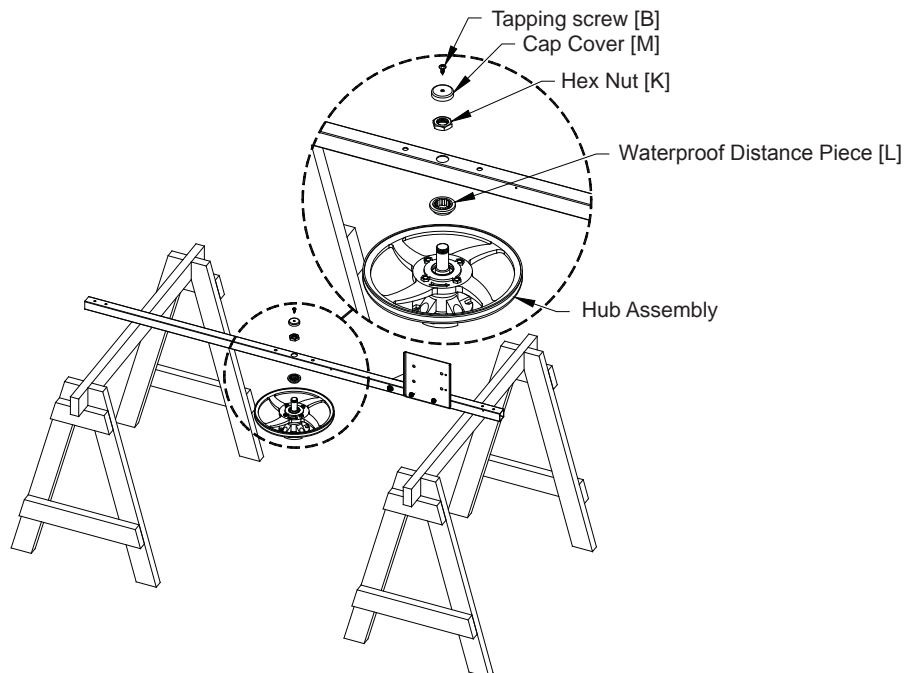

Figure 4
Rotate the Central Support on the saw horses so the Motor Slide is pointing up. Then slide the Waterproof Distance Piece [M] over the hub shaft as shown in Figure 4. Attached the Pulley/Hub Assembly to the Central Support using (1) Hex Nut [K] and tighten to 60 Nm. See Figure 4. Then place the Cup Cover Nut [M] over the Hex Nut and fasten in place with (1) Tapping Screw [B]. See Figure 4. Set aside the Support Assembly for use in a later step.